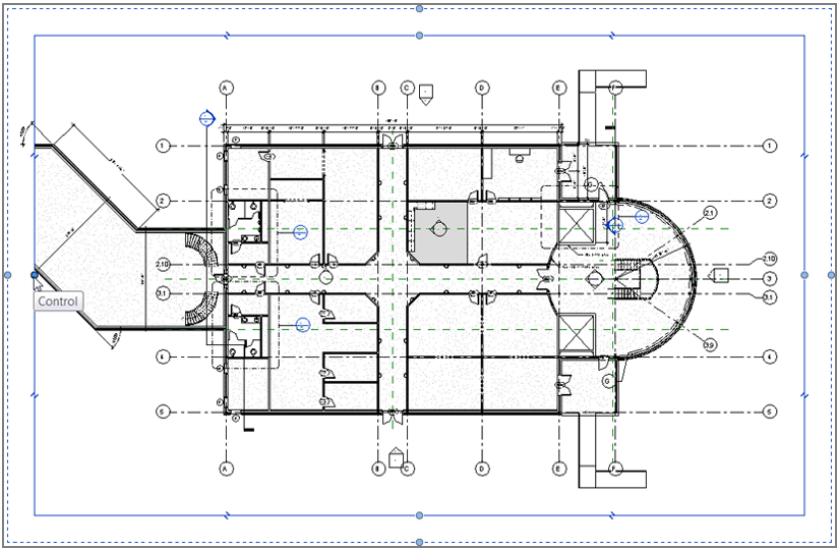

FIGURE 13.4: Dragging the crop region to the right in the Level 1 East view
6. Drag the left side of the region to the right, as shown in Figure 13.4.